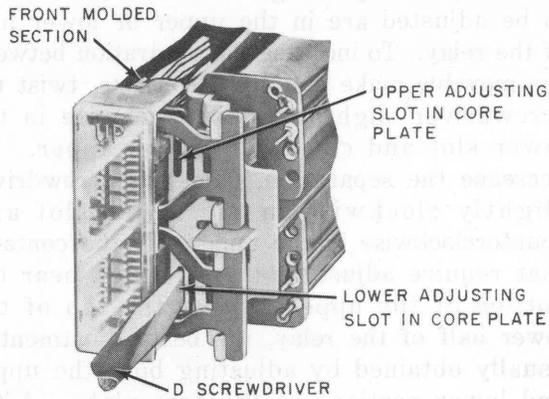

Fig. 8—Method of Adjusting Contact Separation
(1) Adjustments to meet the contact make and break requirements are made by adjusting the upper and lower portions of the core plate to reposition the outer ends of the fixed contact springs which are supported in the front molded section. Since this molded section rests against the top and bottom of the core plate only, adjustment of either the upper or lower portion of the core plate will change the position of the fixed contacts in an inverse ratio to their distances from the top and bottom of the core plate, respectively. Thus, adjustment of the lower portion of the core plate will have the greatest effect on the position of the fixed contact in position 1 (lower half of relay) and negligible effect on the contact in position 12 (upper half of relay). This relation should be taken into account when making adjustments for contact make and break in either half of the relay, and the adjustment should be made on either one or both portions of the core plate in order to obtain the required result with as little bending of either portion as practicable.
(2) **Contact Make:** To adjust for contact make, insert the D screwdriver, as shown in Fig. 8, into either the upper or lower adjusting slot in the core plate depending on whether the contacts to be adjusted are in the upper or lower half of the relay. To increase the separation between the movable make and fixed contacts, twist the screwdriver slightly counterclockwise in the lower slot and clockwise in the upper. To decrease the separation, twist the screwdriver slightly clockwise in the lower slot and counterclockwise in the upper. If the contacts that require adjustment are located near the bottom of the upper half or the top of the lower half of the relay, the best adjustment is usually obtained by adjusting both the upper and lower portions of the core plate. After completing the adjustment, recheck the contact make and break and contact sequence requirements for both the upper and lower halves of the relay.
(3) **Contact Break:** To adjust for contact break, insert the D screwdriver, as shown in Fig. 8, into either the upper or lower adjusting slot in the core plate depending on whether the contacts to be adjusted are in the upper or lower half of the relay. To increase the separation between the movable break and fixed contacts, twist the screwdriver slightly clockwise in the lower slot and counterclockwise in the upper. To decrease the separation, twist the screwdriver slightly counterclockwise in the lower slot and clockwise in the upper. If the contacts that require adjustment are located near the bottom of the upper half or the top of the lower half of the relay, the best adjustment is usually obtained by adjusting both the upper and lower portions in the core plate. After completing the adjustment, recheck the contact make and break and contact sequence requirements for both the upper and lower halves of the relay.
(4) Failure to meet contact make or break requirements after adjusting as covered in (1) through (3) may be due to a worn card. In this case, replace the card.
- (5) **Contact Sequence:** To adjust for contact sequence, proceed as covered in (1) through (4).